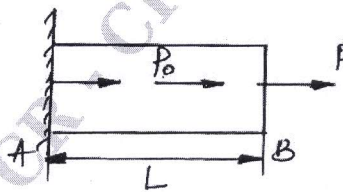

Fig.Q2(a)
- 2 a. Find the maximum deflection using Galerkin's method, Fig.Q2(a). (10 Marks)